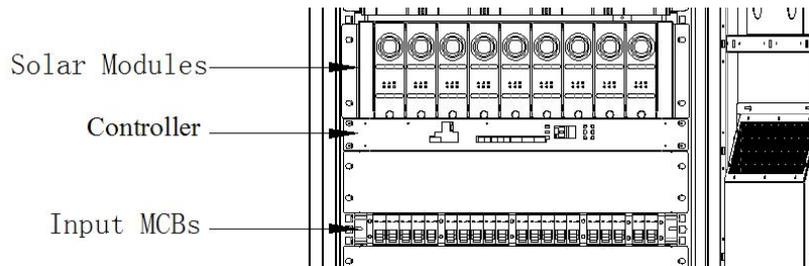

Figure 2-8 AC input MCBs
Connect the AC input live line to the top terminals of the AC input MCB of the power distribution unit. For 3-phase live line, connect the AC input live line to the three terminals (label: L1, L2, L3) of the AC input MCB. For single-phase live line, connect the AC input live line to one terminal of the AC input MCB and short the three terminals with cables. Connect the AC input neutral line (N) to the top terminal (label: N) of the AC input MCB, as shown in Figure 2-8.